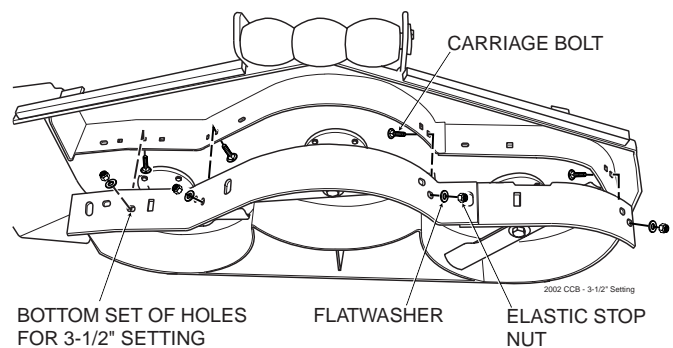

Figure 11. 3-1/2" Custom Cut Baffle Position
- B. 3-1/2" Position (factory setting) - baffle is installed using the bottom set of holes on the Custom Cut Baffle. (See Figure 11). For general purpose cutting, place the Custom Cut Baffle in the 3-1/2" position. This gives the best mix of cutting performance in all types of grass.
4. Reinstall the mounting hardware as shown. (See Figures 11 through 12). Torque hardware to 39ft.lbs.